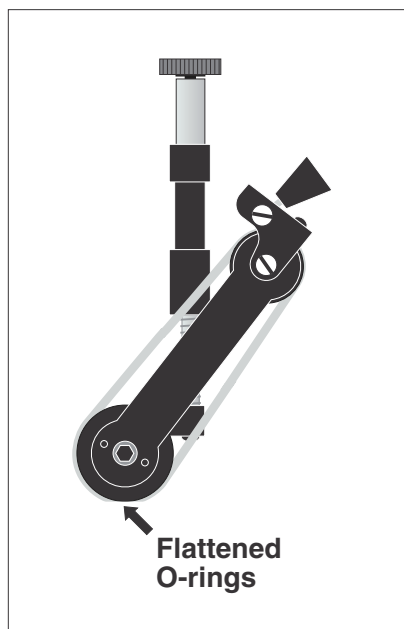

Figure 6-1. Advancing O-Ring Gate
- Advancing O-ring, or standard O-ring: Flat areas along the O-rings (Figures 6-1 and 6-2, respectively).